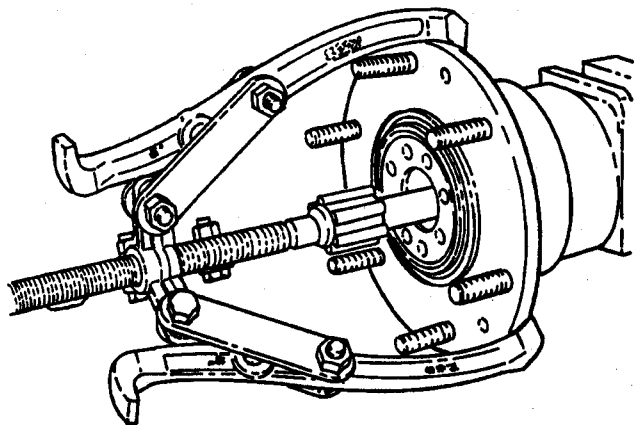

Figure 7.
10. Remove planet gears (38), thrust washer (40), and bearings (39).
11. Remove ring gear (26). Unscrew and remove four bolts (37), retaining ring (57), and ring gear support (24).
12. Using a suitable puller and center pad (Figure 7), remove the hub carrier (18, Figure 5), from lateral axle housing (1). If the axle is still on the machine, the half shaft may be used in place of the center pad.